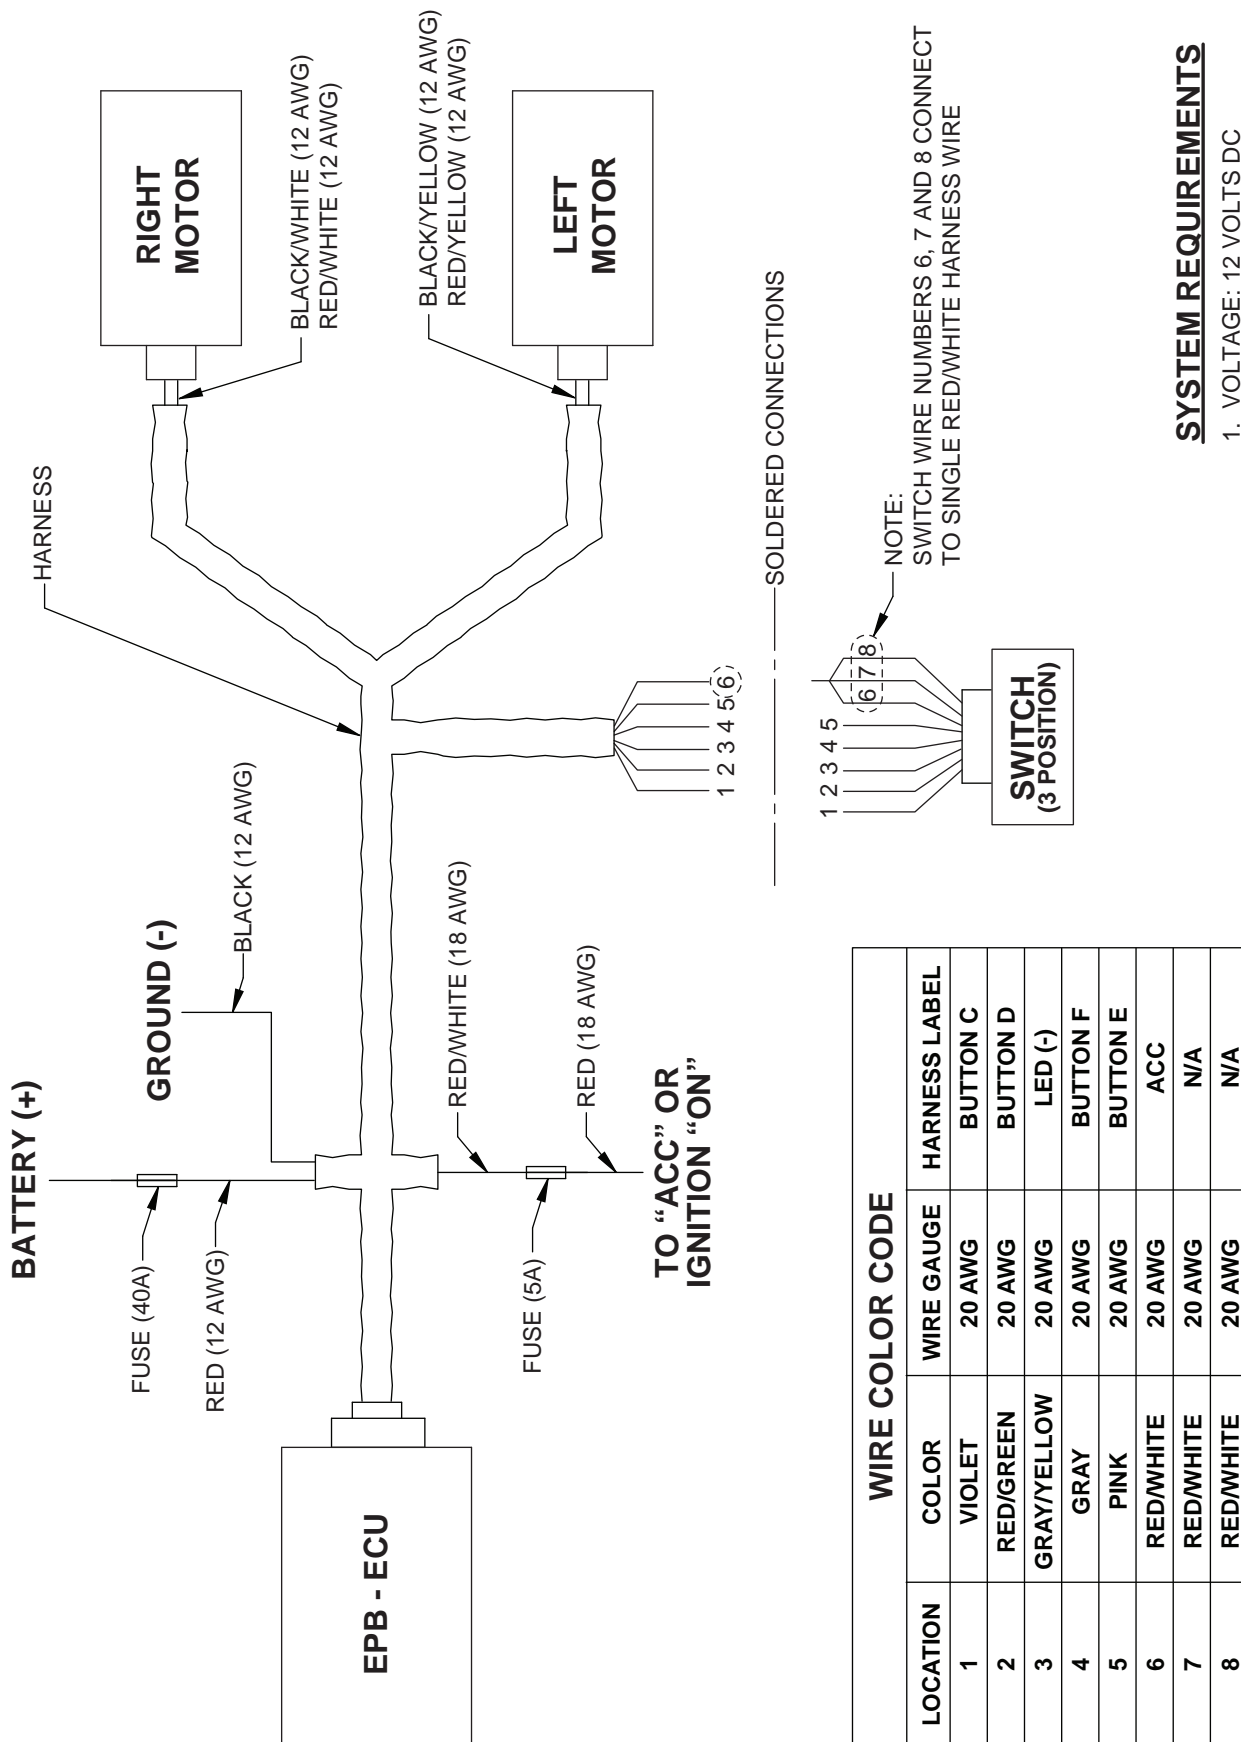

Figure 4. EPB Wiring Diagram
- **EPB WIRING HARNESS** - All wiring harness leads are labeled – refer to wiring diagram, Figure 4. Carefully route harness cables/wires to prevent contact with moving or rotating components and away from heat sources and pinch points. **NOTE:** *Wilwood EPB harness is designed for use in many different vehicle applications and it is the installer's responsibility to properly route cables/wires and ensure adequate clearance and retention for EPB components.*
## Wiring installation - Refer to wiring diagram, Figure 4